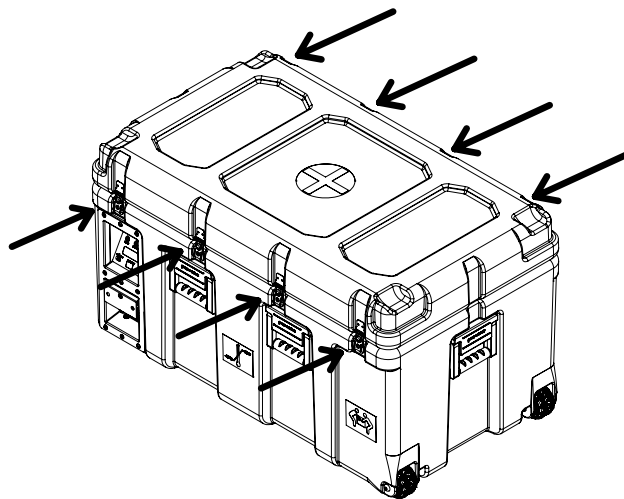

Figure 6: AX56L Outer Lid Latches
2. This lid has 8 latches, 4 on the front and 4 on the back (Figure 6). (On units with optional hinged lid there are only 4 latches on the front).